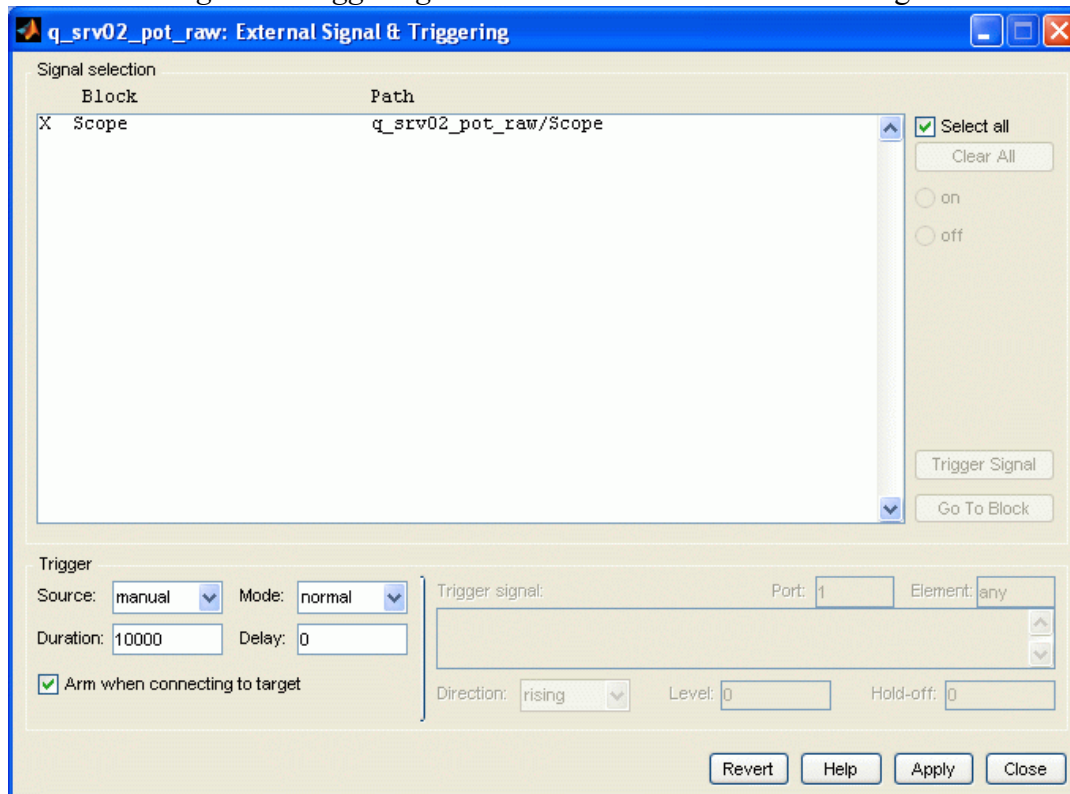

Figure 18: Signal and Triggering window for a Simulink diagram with a single Scope.
2. Click on the *Signal & Triggering* button and the window shown in Figure 18 will load.
3. As shown in Figure 18, ensure the *Arm when connection to target* option is selected so that the scope plots information when the QUARC controller is running.